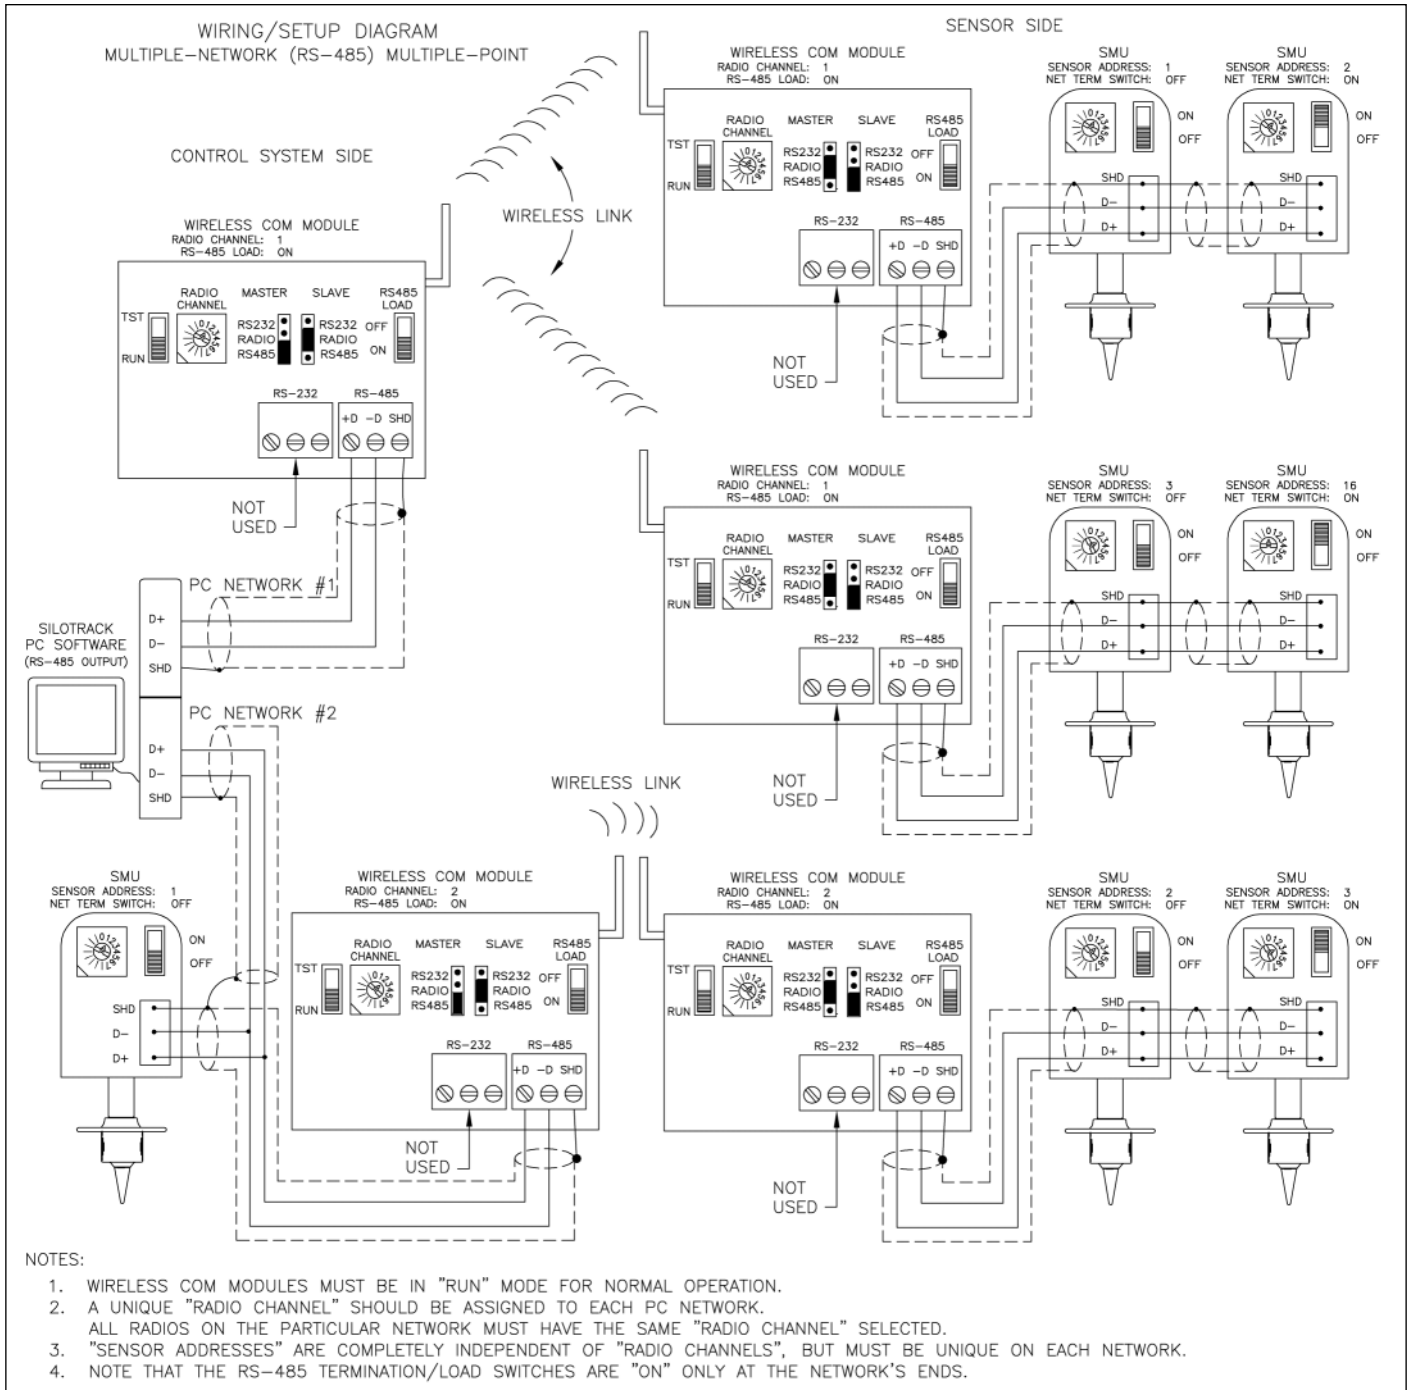

Figure 9
**2) RS-485 Connection:** (See Figure 9) The RS-485 protocol permits network interconnection of multiple devices such as the control system (**SiloTrack**), sensors (SMUs), Auxiliary Output Enclosures (AOEs), Remote Display Units (RDUs) and Wireless Communication Interfaces. Devices on this “network” are interconnected in a daisy chain, multi-drop configuration using a 2-conductor shielded cable (such as Belden 9322 or Alpha 6302). Order of connection is not important (i.e.the Wireless Communication Interface can be connected between SMUs if necessary). The Wireless Communication Interface creates a “wireless link” that replaces a section of the RS-485 wiring. This break in the wiring results in two wired circuits: